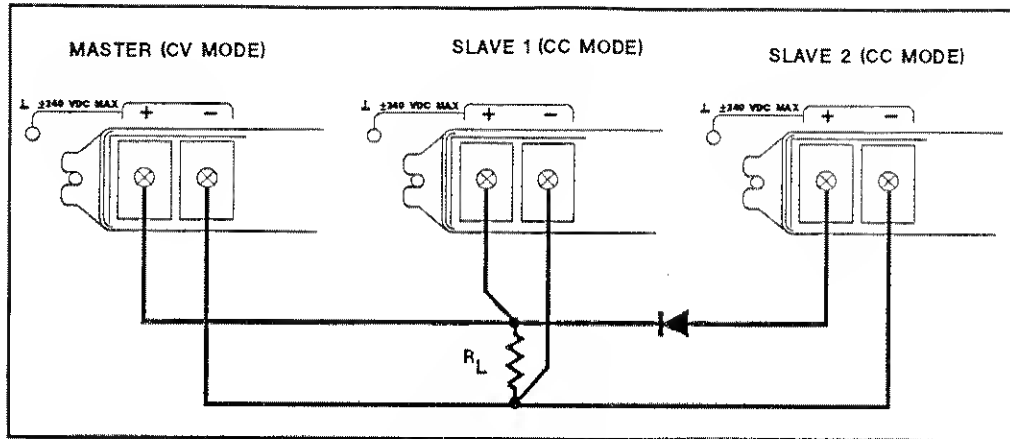

Figure 4-7.
**Insert Protection Diodes.** If you connect the slave 2 supply to the load through a series diode (see Figure 4-7), its OVP circuit will not draw current from other supplies. Be certain to increase the programmed CV level of slave 2 by at least 0.7 V to compensate for the voltage drop in the diode.